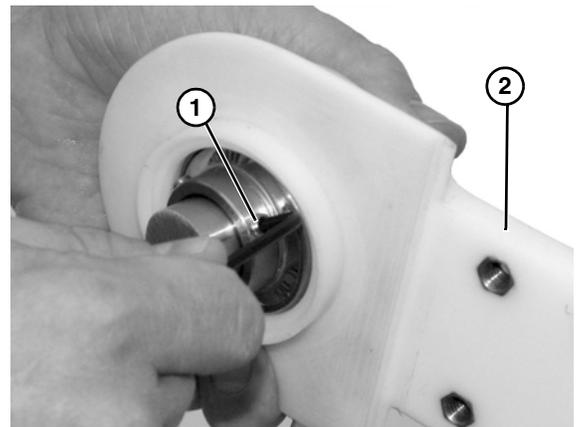

Figure 44
- Loosen set screws (Figure 44, item 1) and remove tail plate (Figure 44, item 2).